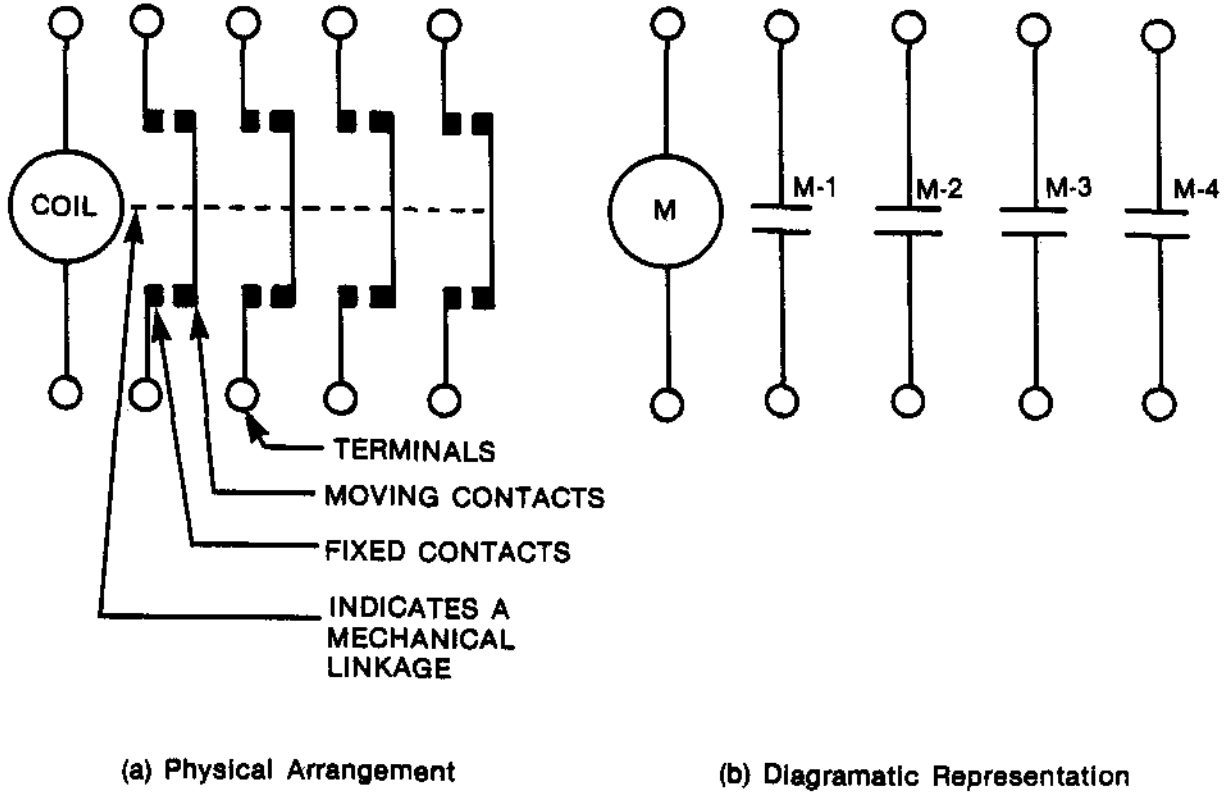

Figure 4: Contact and Coil Arrangement for a Contactor. Contactor Shown De-energized.
- (b) Motors having an output rating up to approximately 30 kW (40 HP) are operated from a 600 V 3 phase supply and are controlled by contactors. Figure 4(a) and 4(b) show the coil and contact arrangement for a contactor. When the coil is energized, all four contacts close. Note there are at least four contacts on a contactor. Three contacts are required for the power circuit and one is required for the "seal-in" circuit, which is described later. Additional contacts may be provided for interlock and indication purposes.
In Figure 4(b), the contactor coil is called M and the four contacts that are operated by this contactor are called M-1, M-2, M-3, M-4.